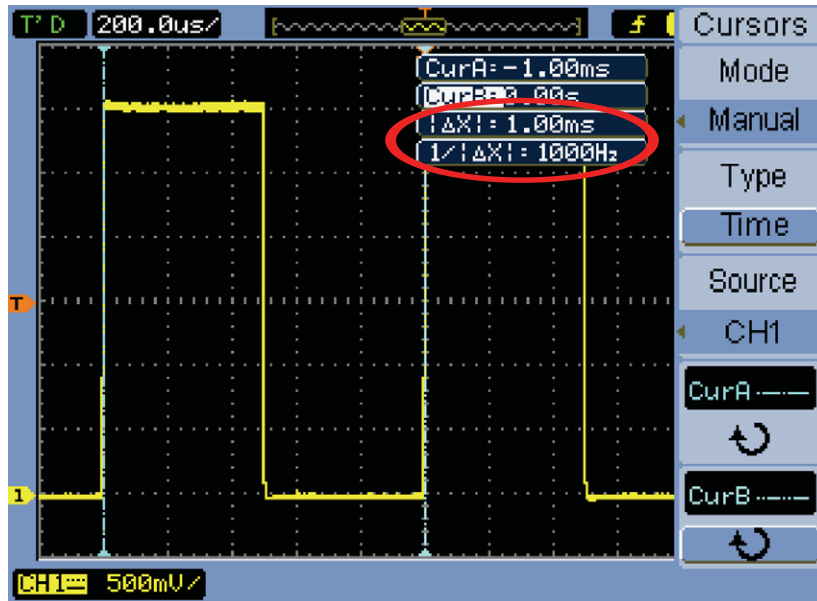

Figure 10 Using time cursors to measure the period and frequency of the square wave
- 18 Rotate the **Entry** knob to position the B timing cursor onto the 2nd rising edge of the waveform at center-screen. Your scope's display should now look similar to Figure 10.